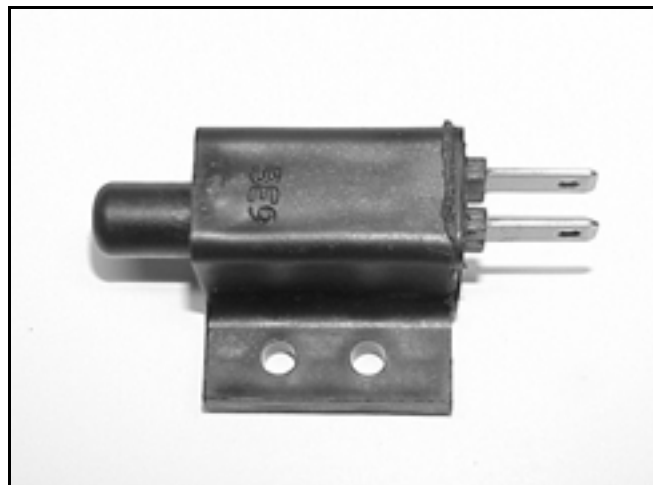

Figure 192
3. Depress the plunger on the switch and check the continuity across the terminals, there should be NO continuity (Figure 192).